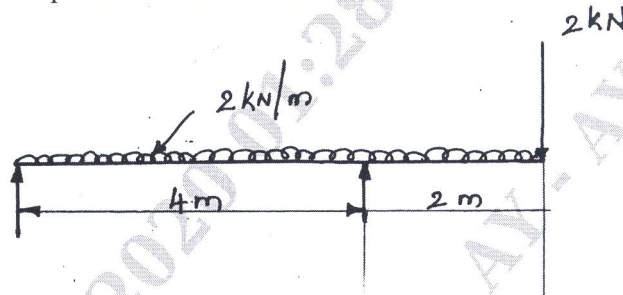

Fig Q5(b) (14 Marks)
b. Draw the shear force and bending moment diagrams for overhanging beam carrying uniformly distributed load of 2kN/m over the entire length and a point load of 2kN as shown in Fig Q5(b). Locate the point of contra flexure.